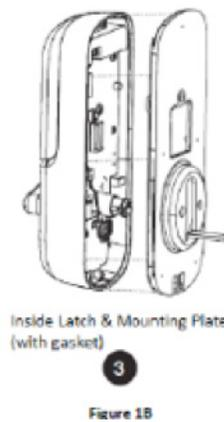

Figure 1B
- › Remove the inside mounting plate (with gasket) from back (door side) of the inside latch (Fig. 1B).